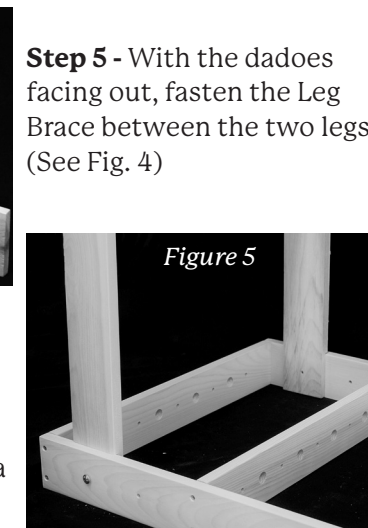

Figure 5
Step 6 - Bolt the Leg Assemblies to the sections. (See Fig. 5) We recommend spacing Leg Assemblies approx. every 3 feet to insure a solid base for your roadbed.